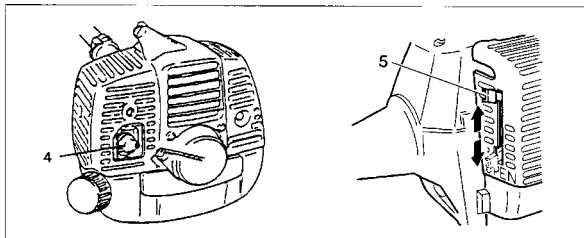

Fig. 2-2B
1. Set ignition switch (1) to ON position.
\*Push priming bulb (4) several times so that fuel flows through bulb into carburetor. (if so equipped)(Fig. 2-2B,3)
2. With the safety lever (2) pressed (if so equipped), pull throttle trigger and push lock button (3), then slowly release the throttle trigger first, then the safety lever. This will lock the throttle in starting position.
3. Set choke lever to CLOSED position (5). (Fig. 2-2B,3)